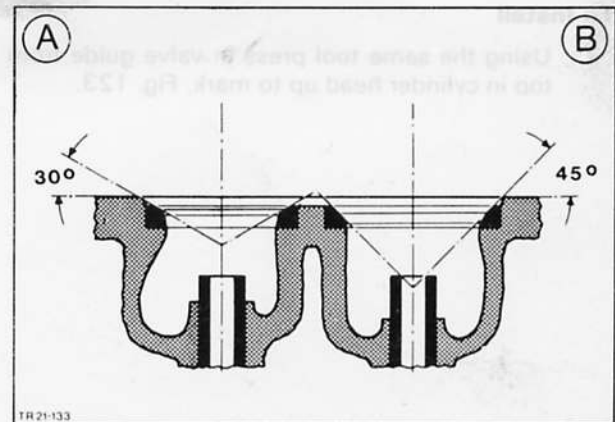

Fig. 121. Valve seat angle
**When machining valve seat pay attention to differing valve seat angles in cylinder head, Fig. 121 (see Technical Data).**